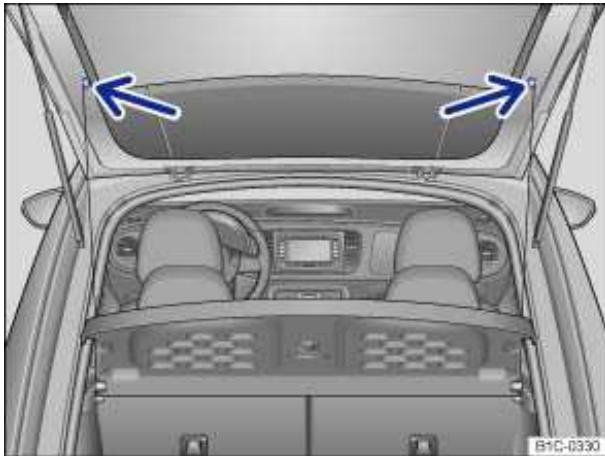

Fig. 77 On the rear hatch: Installing and removing the supporting cords.
- Unhook the supporting cords from each side of the rear hatch ⇒ fig. 77 (arrows).
- Hook the supporting straps onto the rear hatch ⇒ fig. 77 (arrows).